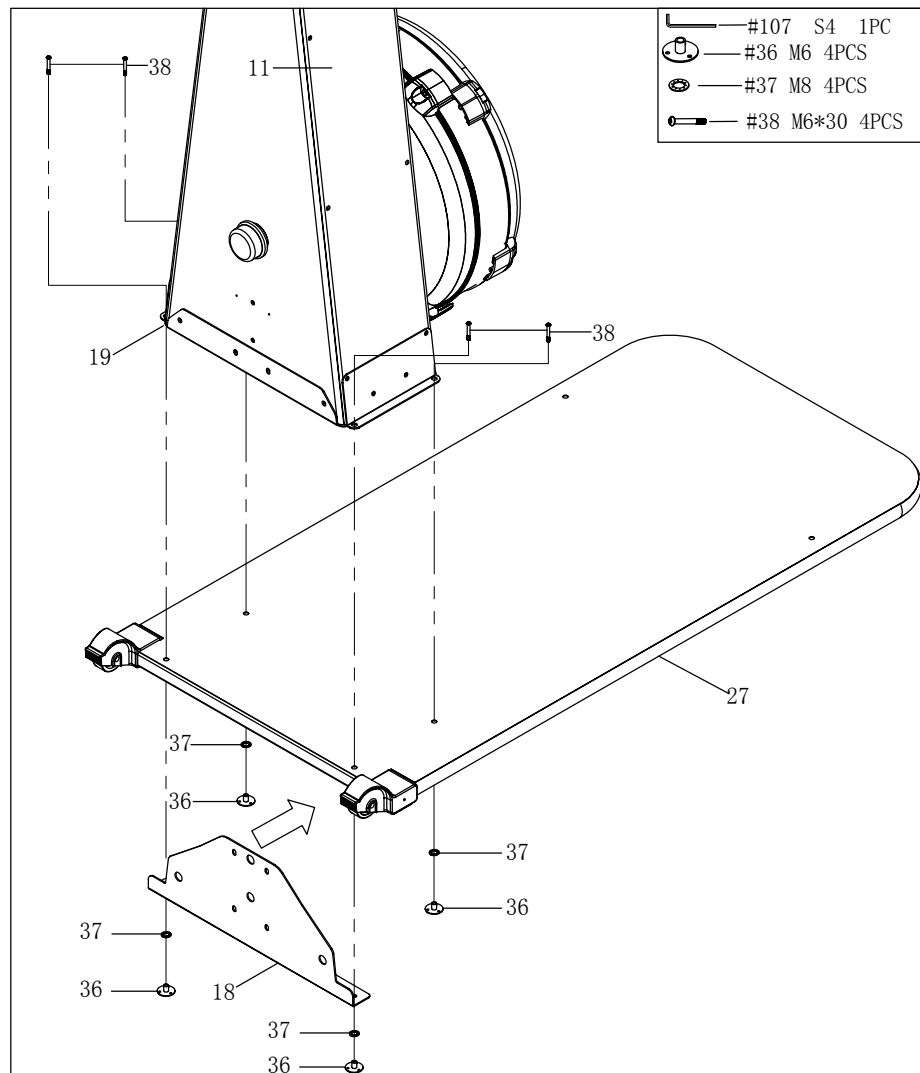

Fig. 7
2. Remove the four bolts (38) from the bottom plate (27).
3. Fix the bottom plate (27) and the strengthening plate (18) to the main frame (11) with four bolts (38), four lock washers (37), and four lock nuts (36) (Fig. 7).
① NOTICE